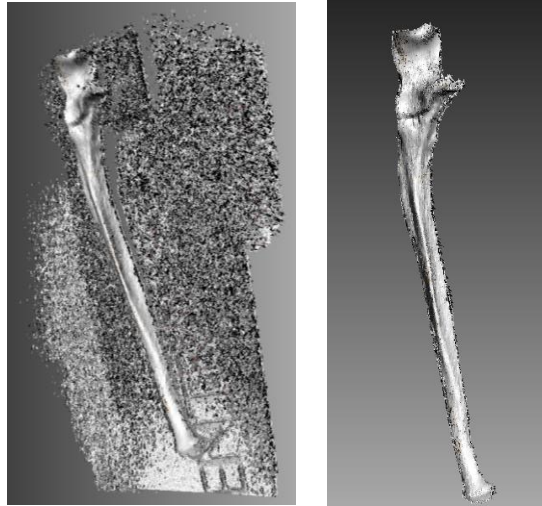

Figure 3. Scan of a right ulna before (left) and after (right) eliminating noise.
10. Editor options – eraser allows you to eliminate noise not associated with the bone scan (Fig. 3, User Guide